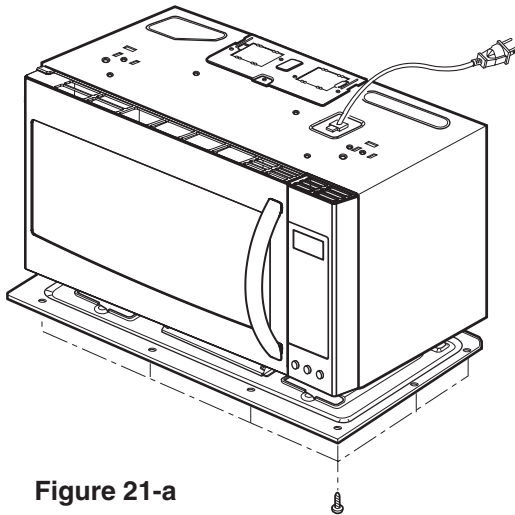

Figure 21-a
- (1) Remove the turntable.
- (2) Remove the turntable shaft VERY CAREFULLY with a slotted screwdriver. (Figure 21)